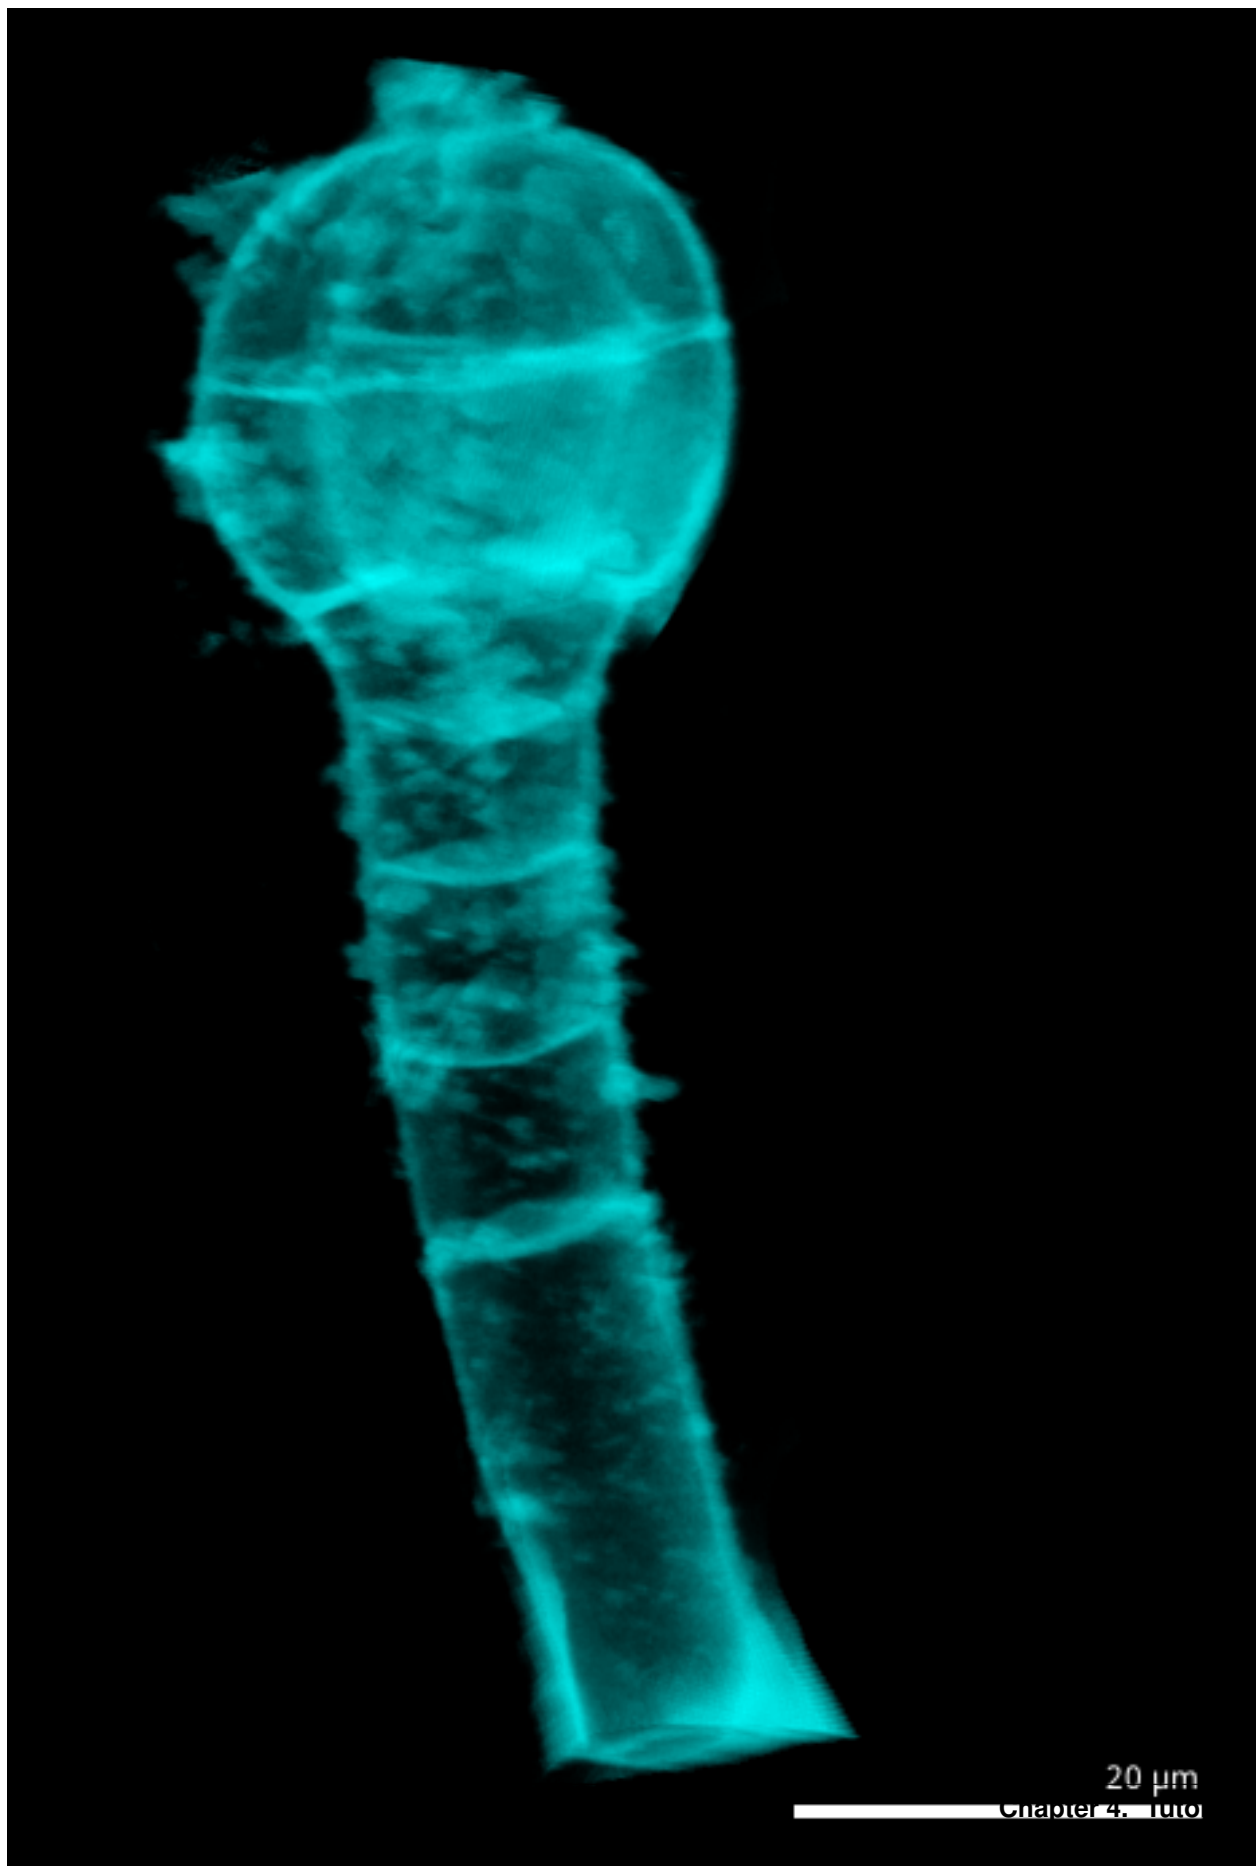

Fig. 16: Cleaned stack
4. Remove pixels by pressing the `Alt` key and clicking. All visible pixels within the drawn circle will be erased! After a few minutes of erasing, you should get something like Figure 16.